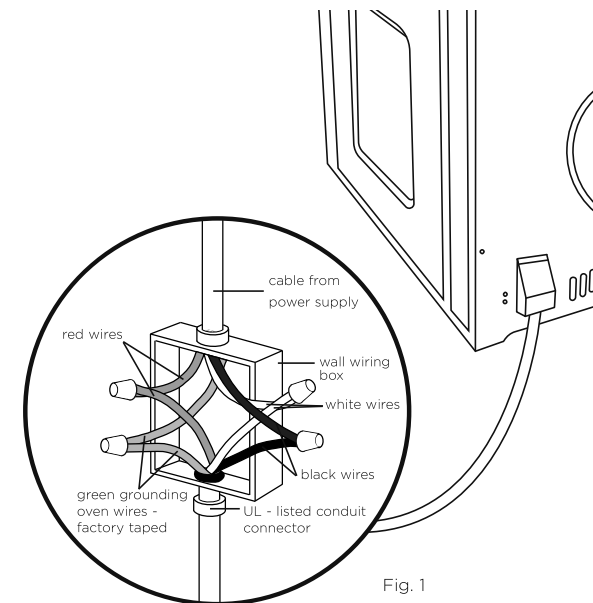

Fig. 1
- specifications of the electrical system match with what is detailed on this section. (Fig. 1)